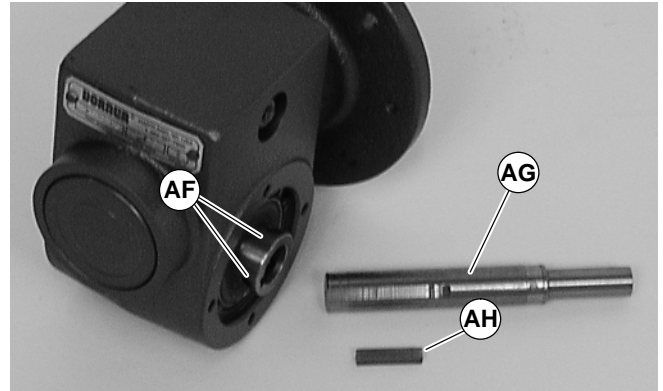

Figure 17
9. Insert the new shaft with adhesive (AG of Figure 17) and key (AH) into new gear reducer. Tighten set screws (AF) to 35 in-lb (4 Nm).